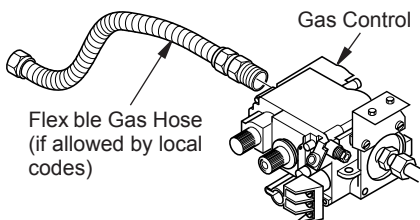

Figure 11 - Attaching Flexible Gas Hose to Heater Gas Regulator
1. Apply pipe joint sealant lightly to male threads of gas fitting (provided). For Remote models connect approved flexible gas hose to inlet side of gas control (see Figure 11).